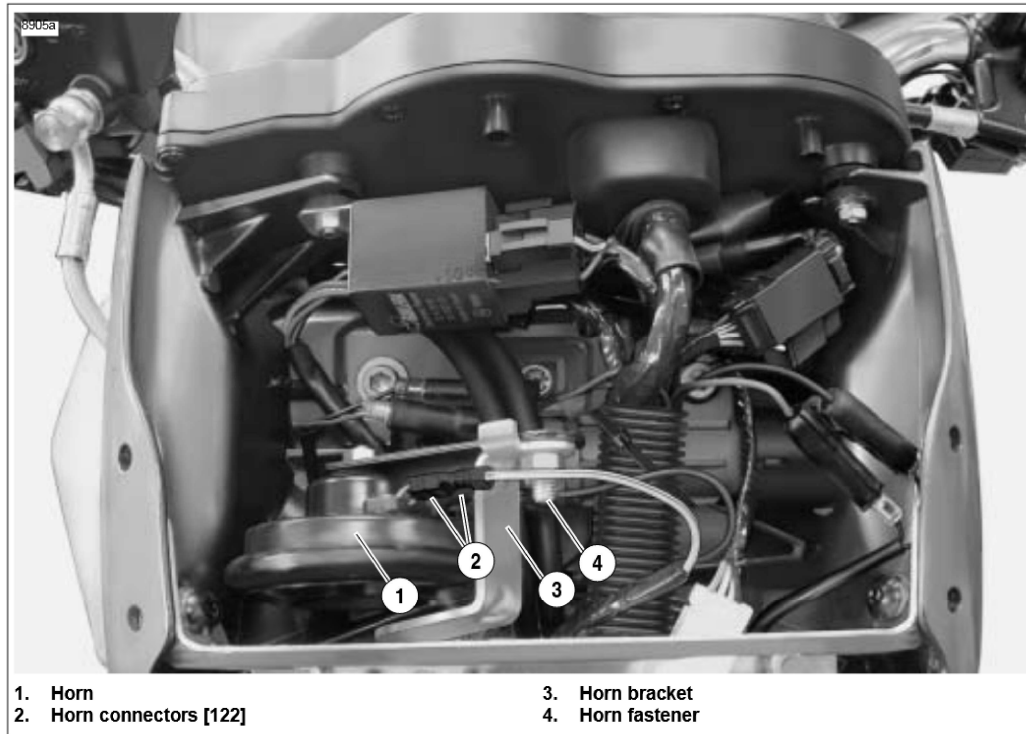

Figure 1-1. Horn Assembly Behind Windscreen
4. See Figure 1-1. Disconnect horn connectors [122] (2) and remove horn fastener (4) and horn (1).